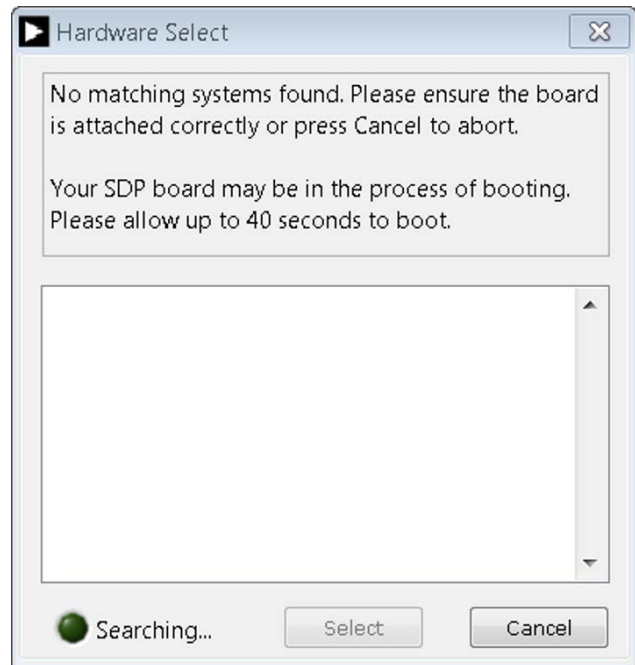
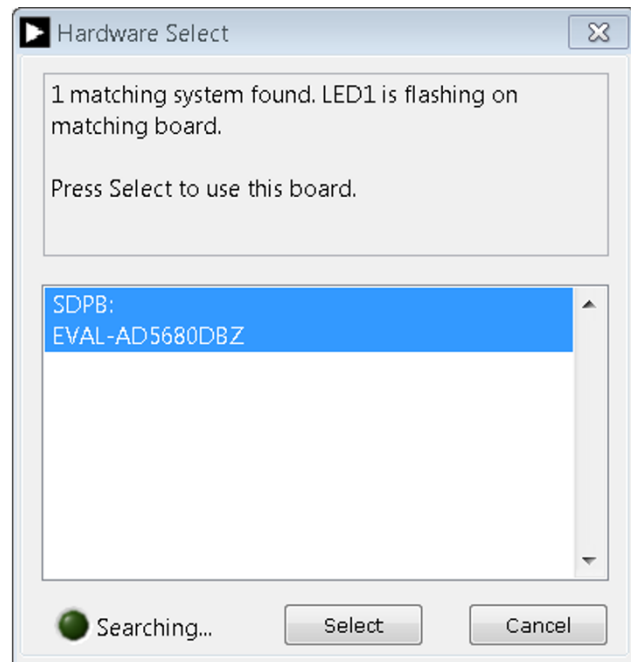

Figure 2. Connectivity Error
Figure 3. Hardware Select
4. If the SDP-B board is not connected to the USB port when the software is launched, a connectivity error displays (see Figure 2). Connect the EVAL-AD5680DBZ evaluation board to the USB port of the PC and wait a few seconds. When the SDP-B board is detected, the display is updated (see Figure 3).